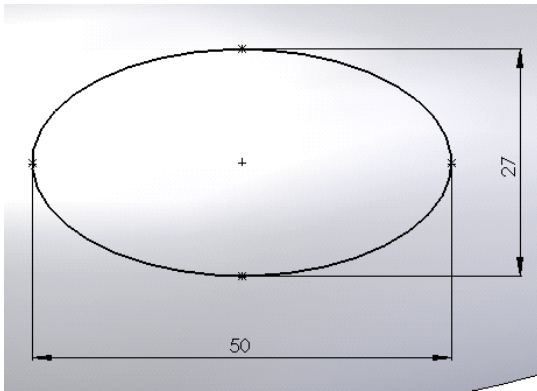

Figure 15-135 Sketch for lofting
6. Now, invoke the sketching environment using the newly created plane as the sketching plane and create the sketch as shown in Figure 15-135. Exit the sketching environment.